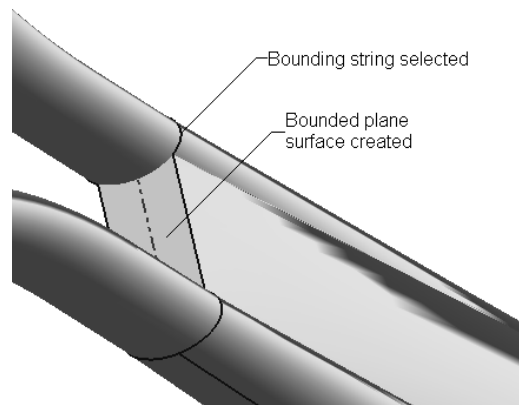

Figure 11-100 The bounding string selected and the resulting bounded plane surface created
3. Again, select the sketch shown in Figure 11-100 to create the bounding surface. The resulting bounded plane surface is displayed, as shown in Figure 11-100.